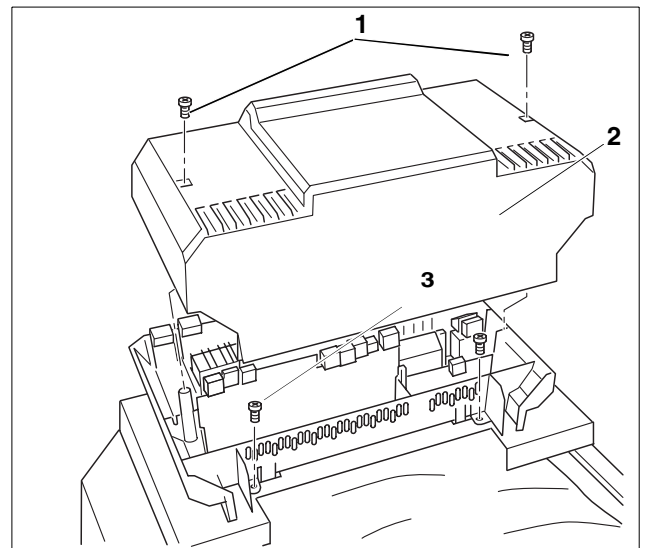

Fig. 14 Installation of Logamatic control
- Remove the two screws from the control housing (Fig. 14, **Item. 1**). Remove top cover.
- Fasten the control to the boiler jacket top cover using the two screws as shown (Fig. 14, **Item. 3**).
- Install the top housing of the control and secure with two furnished screws (Fig. 14, **Item. 1**).